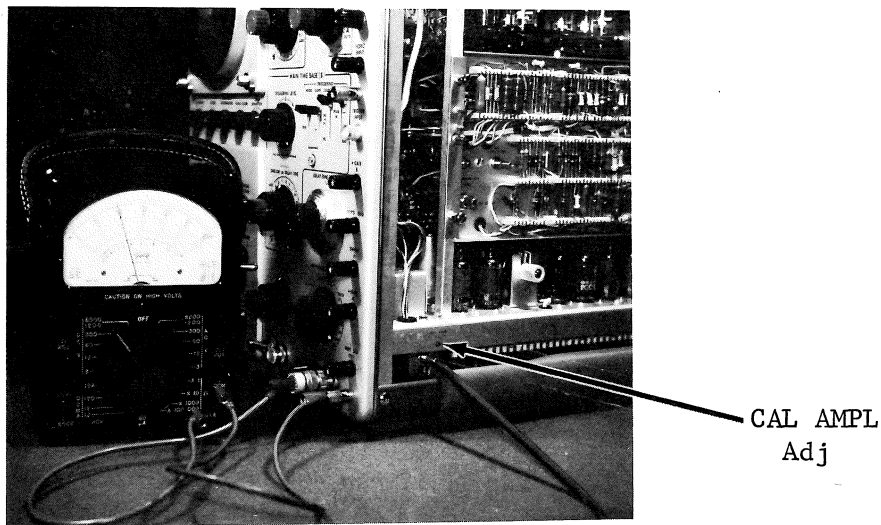

Figure 7
2. Adjust the CAL. AMPL. control (R943) for exactly +100v at the center of the CAL. OUT connector. (See Fig. 7)